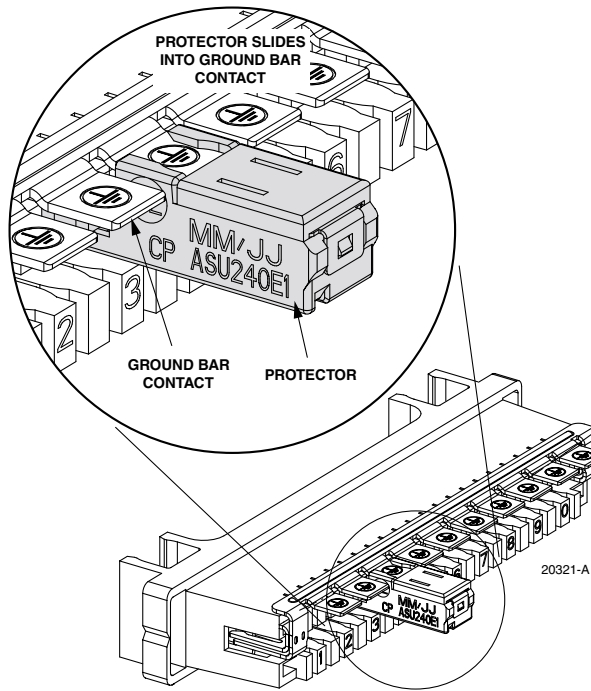
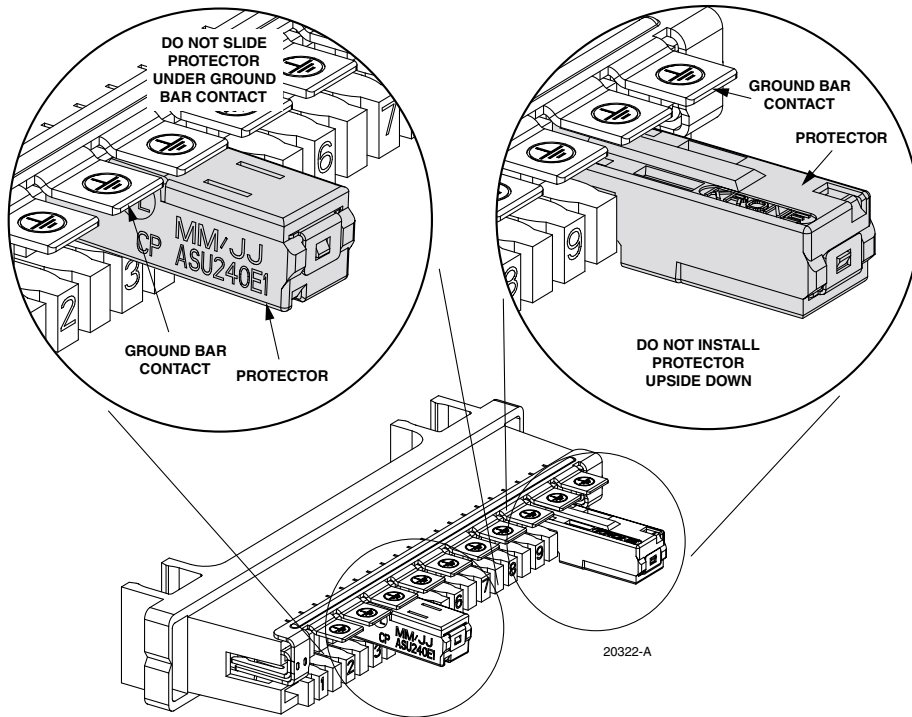

Figure 2. Correct ComProtect Single-Pair Protector Installation
Figure 3. Incorrect ComProtect Single-Pair Protector Installation
2. Insert the ComProtect Single-Pair Protector into the access port on the Disconnect or Switching termination block. Correct installation is shown in (Figure 2). Incorrect installation is shown in (Figure 3). One protector is needed for every pair that requires protection. Make sure that the ground clip on the ComProtect Single-Pair Protector seats onto the ground bar.